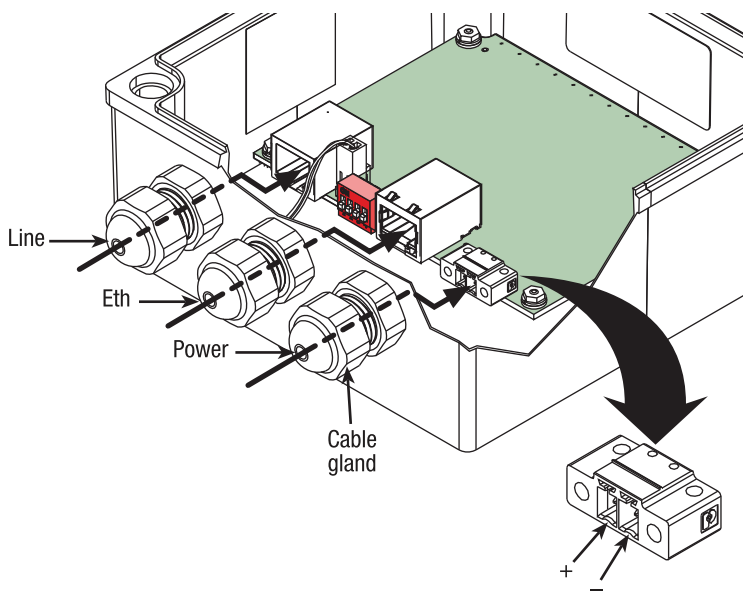
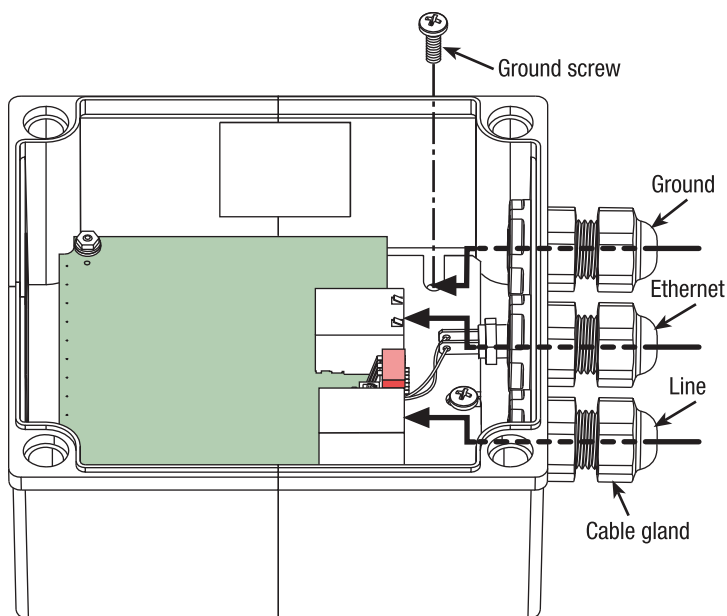

Figure 5. Local unit cable glands
Figure 6. Remote unit cable glands
2. Loosen the IP67 cable glands by turning them counter clockwise. (For the Local unit, see **figure 5** on page 7. For the Remote unit, see **figure 6** on page 7).
3. Remove the grounding screw (see **figure 6** on page 7).
5. Connect the other end of the ground wire to an electrical ground nearest the CL1101E/IP67. Often this will be on an electrical panel or sub panel. If you cannot locate a nearby electrical ground, contact Patton Technical Support at (301) 975-1000 to discuss an alternative grounding solution.
1. Run an un-terminated power cable through the gland labeled *Power* (see **figure 5** on page 7).
2. Connect the cable wires to the terminal block shown in **figure 5**. Be sure to match the cable wires polarity with that of the terminal block.